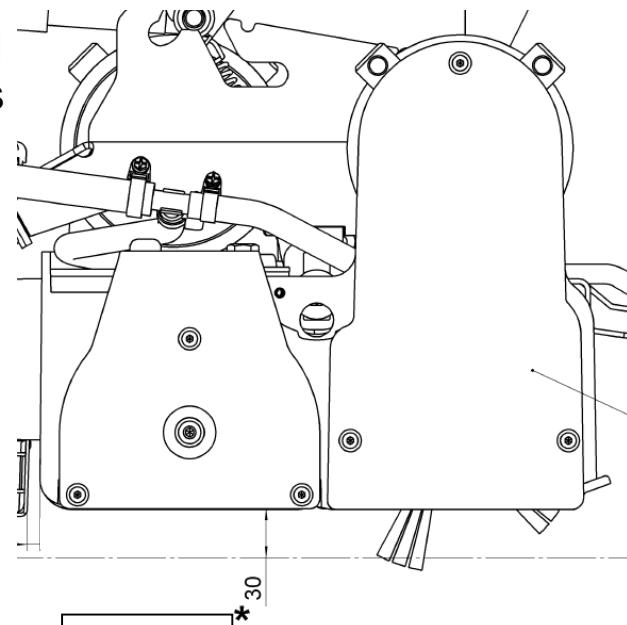

Fig. 7.6
- Produce a distance of 30 mm between the cylindrical brush head and ground by inserting the spacer blocks from the adjustment kit PN 01078870 at the left and right on the brush head (Fig. 7.6).